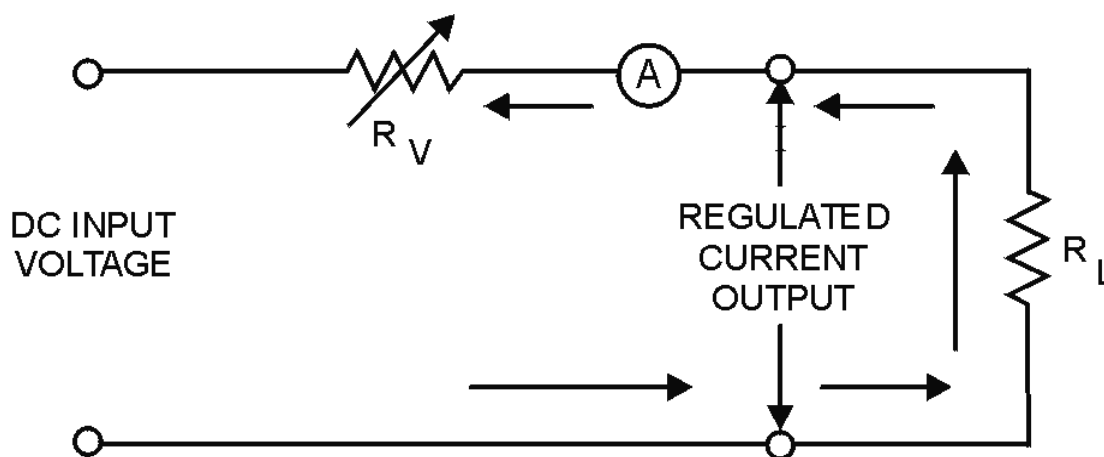

Figure 4-40.—Current regulator (simplified).
You should now know how voltage regulators work to provide constant output voltages. In some circuits it may be necessary to regulate the current output. The circuitry which provides a constant current output is called a constant current regulator or just CURRENT REGULATOR. The schematic shown in figure 4-40 is a simplified schematic for a current regulator. The variable resistor shown on the schematic is used to illustrate the concept of current regulation. You should know from your study of voltage regulators that a variable resistor does not respond quickly enough to compensate for the changes. Notice that an ammeter has been included in this circuit to indicate that the circuit shown is that of a current regulator. When the circuit functions properly, the current reading of the ammeter remains constant. In this case the variable resistor (R_V) compensates for changes in the load or dc input voltage. Adequate current regulation results in the loss of voltage regulation. Studying the schematic shown, you should recall that any increase in load resistance causes a drop in current. To maintain a constant current flow, the resistance of R_V must be reduced whenever the load resistance increases. This causes the total resistance to remain constant. An increase in the input voltage must be compensated for by an increase in the resistance of R_V , thereby maintaining a constant current flow. The operation of a current regulator is similar to that of a voltage regulator. The basic difference is that one regulates current and the other regulates voltage.
- Q36. In figure 4-40, when there is an increase in the load resistance (R_L), the resistance of R_V increases/decreases (which one) to compensate for the change.